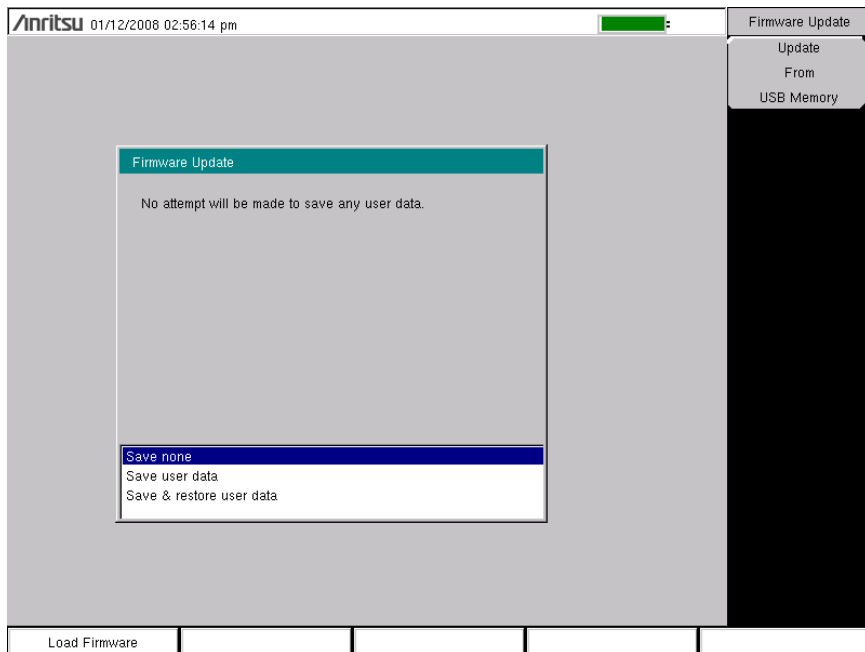

Figure 5-10. Firmware Update Menu
4. Press the Update Application Firmware submenu key, and the Firmware Update dialog opens (Figure 5-10).